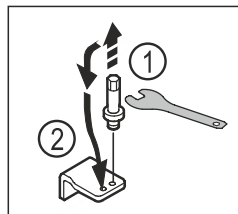

Fig. 17
- Unscrew the bolt of the lower swap bearing block with an Allen key AF5. Fig. 17 (1)
- Insert the bolt on the opposite side. Fig. 17 (2)